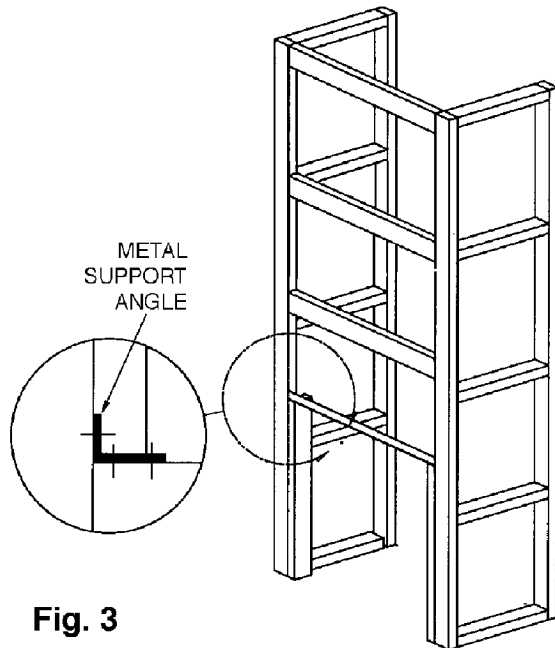

Fig. 3
4. Frame up the **enclosure** using nominal 90 by 45 dressed timber, verifying that it will be on the flue centreline. (See Fig. 3). The overall depth of the frame should be $(587 - t)$ mm, where 't' is the cladding thickness. The distance between the trimmers (where the assembled shielding box will fit), should be 783mm. The overall width of the enclosure frame shown is the minimum required, but if desired it may be larger. The trimmers do not run the full height, but end 735 mm above the finished top face of the floor protector (or 735 mm above the top of the bearers if the heater is 'elevated'). Refer to paragraph 6 for floor protector thickness options and the advantage of 'elevated' installations. Fix the metal support angle across the tops of the trimmers to provide support and fixing for the front heat resistant cladding. (See Fig. 3).